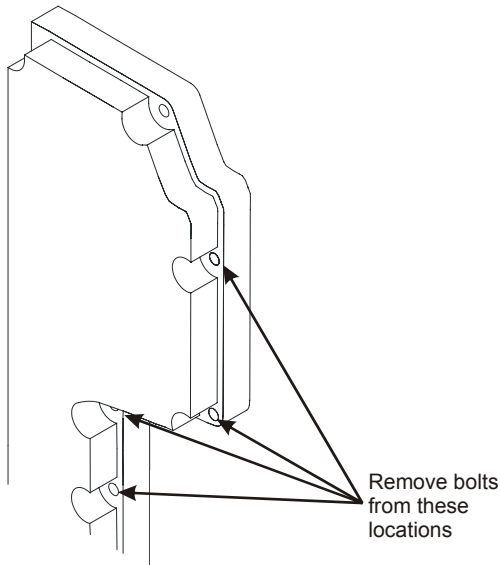

Figure 1.2
- Remove the following four OEM 8 mm bolts from the left side of the timing cover (Figure 1.2):